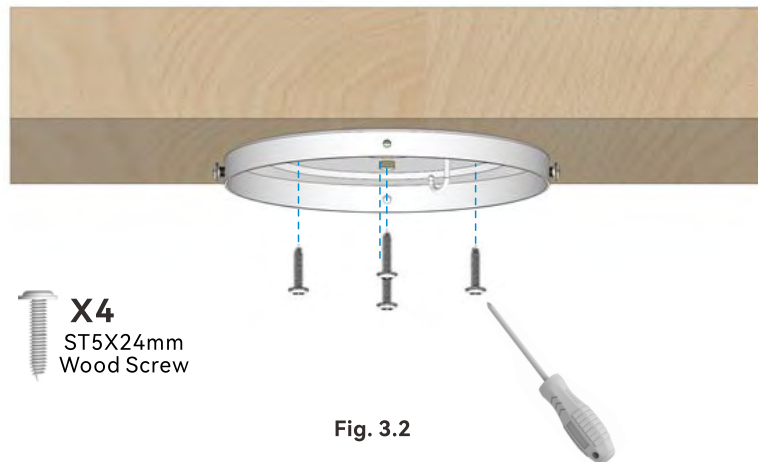

Fig. 3.2
**Option 1:** Secure the mounting plate to a wooden ceiling beam or support structure with an approved electrical outlet box using the ST5x24mm wood screws (included) as shown in Fig. 3.2.